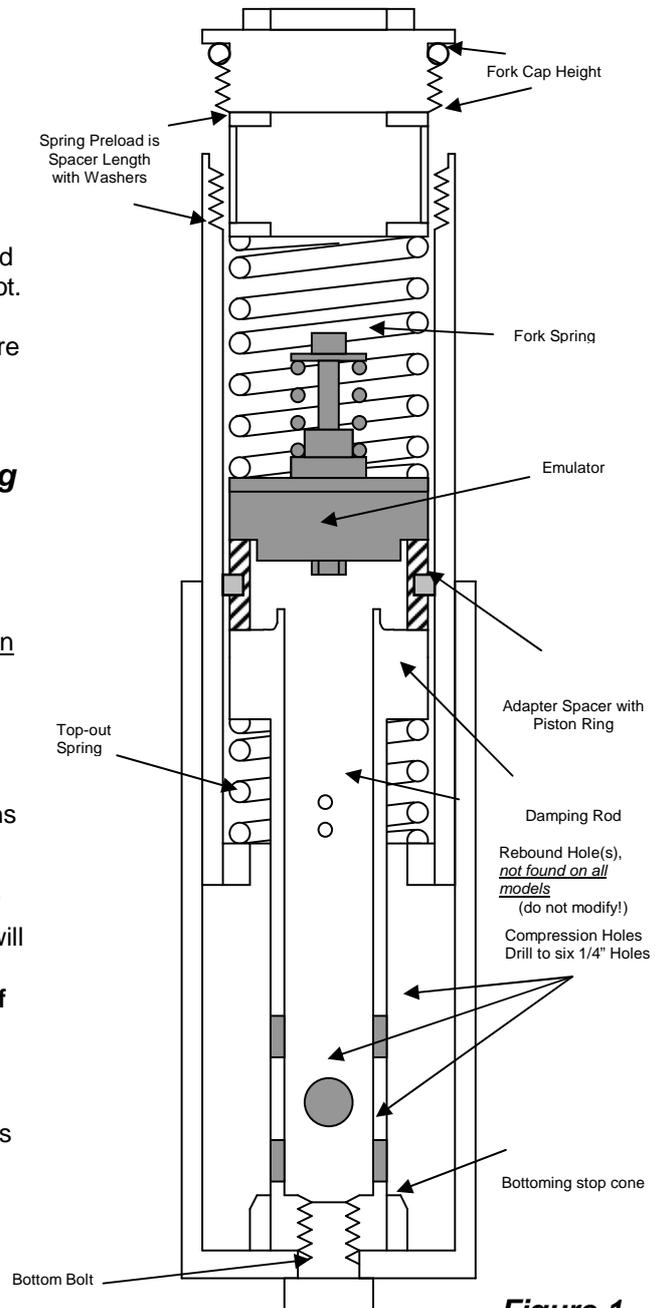

Figure 1
- 2 Drill the existing compression holes in the damping rod to 1/4 inch (6 mm) so you end up with Six holes (3 sets of 2 holes) (figure 1).** When drilling new holes, space them axially (lengthwise) at 10 mm (7/16") increments. Each set of two holes must be perpendicular to the last set so as not to weaken the rod (figure 1). After drilling, chamfer and deburr the compression holes, inside and out. Do not add or enlarge the rebound holes and leave their edges sharp.
- a. Drop the Emulator down the tube on Betor, Bultaco & Ceriani Models. It sits on top of the adapter spacer & damping rod with the Emulator Valve Spring facing up and is held in place with the main fork spring. Refer to figure 1. Visually check to make sure the Emulator is sitting squarely on top of the damping rod. NOTE: On CZ Models the Emulator and Adapter MUST be installed from the bottom of the fork tube. Remove the snap ring holding the check valve at the bottom of the chrome tube. Remove the Damping Rod and top out spring (if present). Install the Emulator up into the fork tube, then the Adapter, damping rod, top out spring, check valve and snap ring. Some CZ Models MAY have a travel limiter that needs to be removed or cut down to allow space for the Emulator and Adapter due to the internal taper at the fork tube.
- c. Set the fork cap on the washer and determine the preload by measuring from the top of the fork tube to the sealing lip on the fork cap (see figure 1). This is a direct measurement of fork spring preload. Shorten the spring spacer tube to achieve the proper preload.